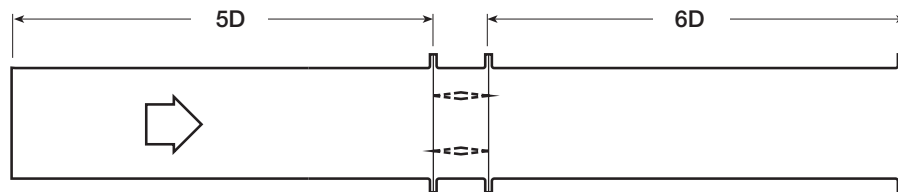

Figure 5.3
**Figure 5.3** Illustrates a fully ducted damper. This configuration has the lowest pressure drop of the three test configurations because entrance and exit losses are minimized by straight duct runs upstream and downstream of the damper.
**AMCA Figure 5.3**